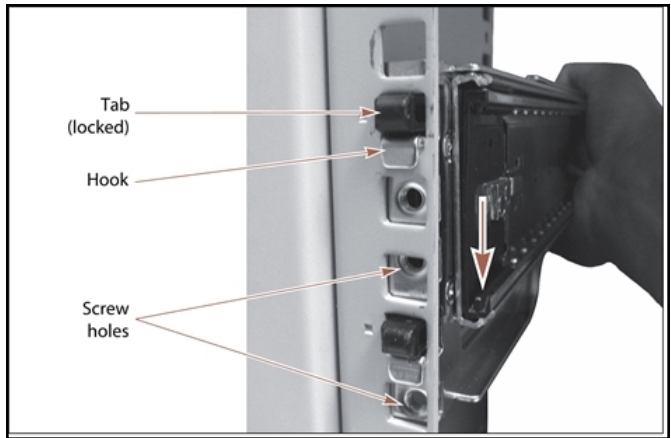

Figure 14 Press the rail down to lock it into place.
- a. Install two outer rail screws (4) and washers (5) in the holes above and below the bottom mounting hook in the front mounting bracket to secure the rail to the front post (see Figure 14).
- b. Install two screws (4) and washers (5) in the upper and lower holes to secure the back of the outer rail to the rear post.